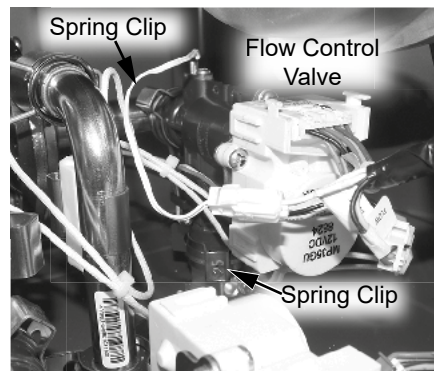

Figure 6 - Flow control valve location
19 Locate the flow control valve at the bottom right side of the water heater. See Figure 6.
20 Remove the two (2) spring clips (size 25) securing the flow control valve to the piping system. Place spring clips aside in a safe place for reinstallation. Remove the flow control valve from pipe connections and set aside in the water heater cabinet. See Figure 6.